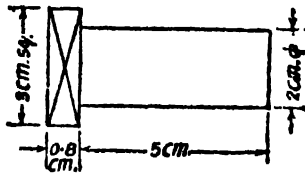

Fig. 8·11
7. 1000 shafts as shown in Fig. 8·11 are to be drop forged from the bar stock of 5 cm. in dia. Consider all losses and assuming that